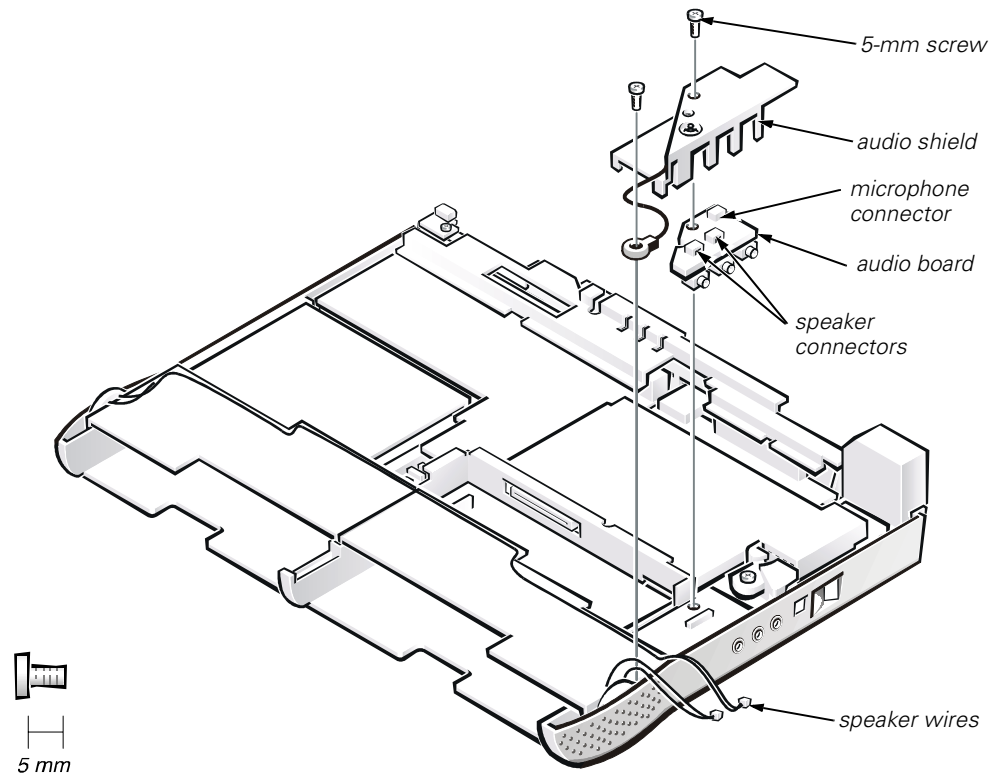

Figure 22. Audio Board Removal
4. Remove the 5-mm screw securing the audio shield (see Figure 22).